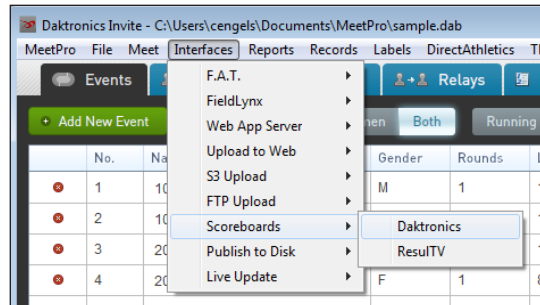

Figure 32: MeetPro Interfaces Menu
2. Go to **Interfaces > Scoreboard > Daktronics** (Figure 32).
1. Go to **Interfaces > Scoreboard > Daktronics (Figure 32)**.